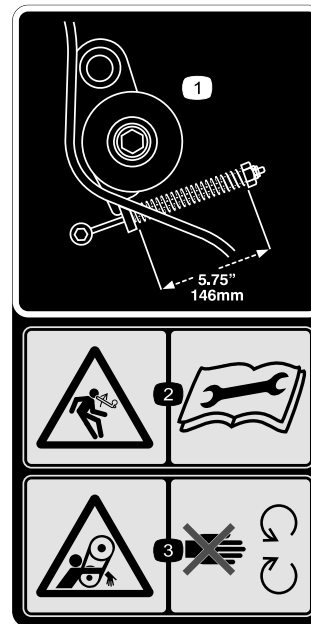

Figure 33
1. Check for proper belt tension by compressing idler spring to a length of 146 mm (5-3/4 inches); refer to Figure 33.